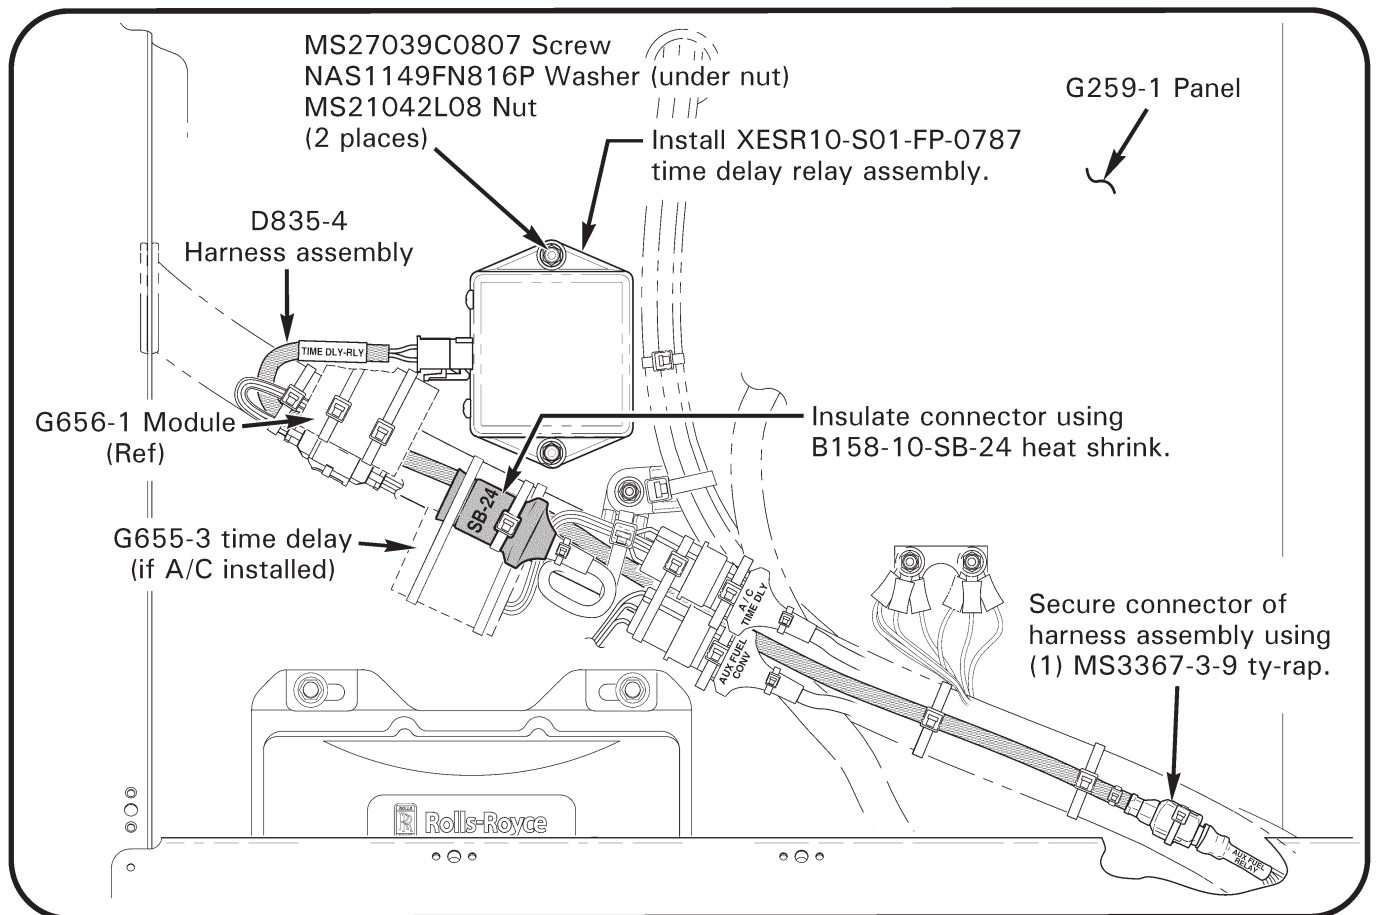

FIGURE 3
4. Refer to Figure 3. Slide B158-10-SB-24 heat shrink over [removed time delay] airframe connector (marked “AUX FUEL TIME DLY”) so “SB-24” is visible and apply heat. Verify connector is insulated and heat shrink is secure.
7. Refer to Figure 3. Install time delay relay using (2) MS27039C0807 screw, (2) NAS1149FN816P washer, and (2) MS21042L08 nut. Verify security.
9. Refer to Figure 3. Route D835-4 harness assembly along airframe main harness as shown. Connect harness assembly to newly installed XESR10-S01-FP-0787 time delay relay.